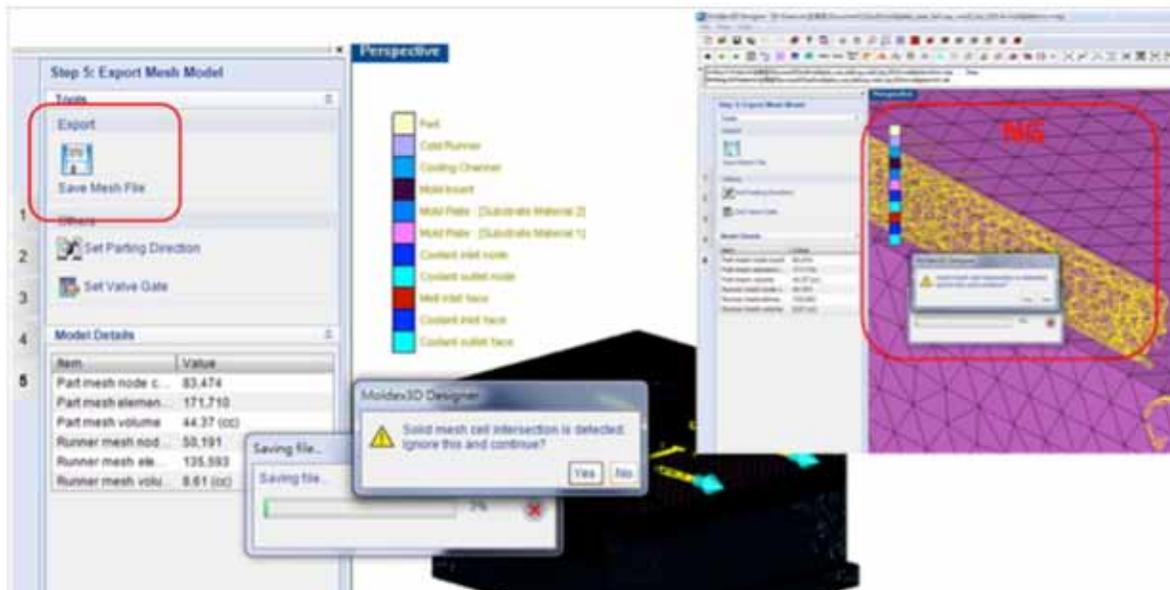

Figure 4: Mesh cell intersection check before mesh export.
5. Export MFE file: The software will automatically check the mesh model before saving it into the file. Warning will pop out if mesh cell intersections detected although Non-matching mesh technology allows small amount of mesh cell intersections. When the intersection amount is too large, there might be such issue as the non-hollowed tunnels, which has to be modified to prevent analysis problems (**Figure 4**).